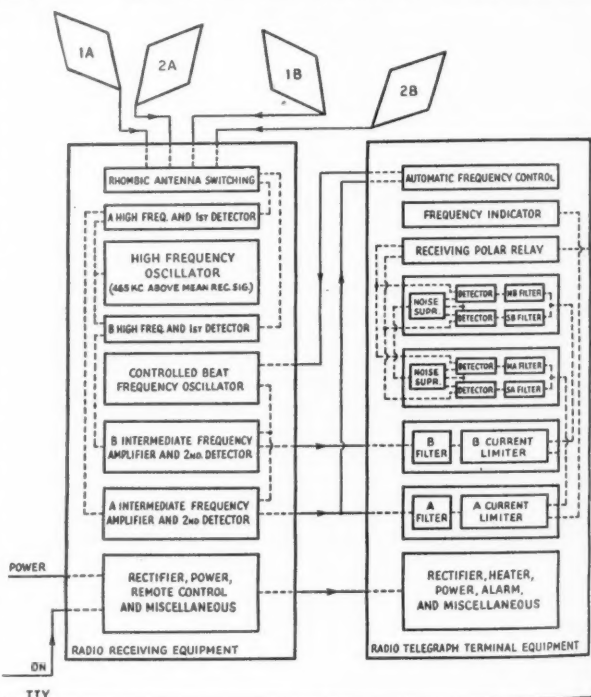

Fig. 3 — The complete layout of radio teletype receiving equipment using dual-diversity reception.
Fig. 3 — 224-Mc. antennas. The coaxial antenna at (A) is fed at the center with a 72-ohm concentric line. The center conductor of the line connects to the $\frac{1}{4}$ -inch copper tube, which forms the upper $\frac{1}{4}$ -wave antenna section at *a*, while escutcheon pins through the $\frac{1}{2}$ -inch tube forming the lower antenna section make contact with the outer conductor of the line at *b*. The two sections are separated by the polystyrene insulator which fits into the end of the $\frac{1}{2}$ -inch tube. The mounting details and method of feeding the modified "J" antenna are shown at (B).